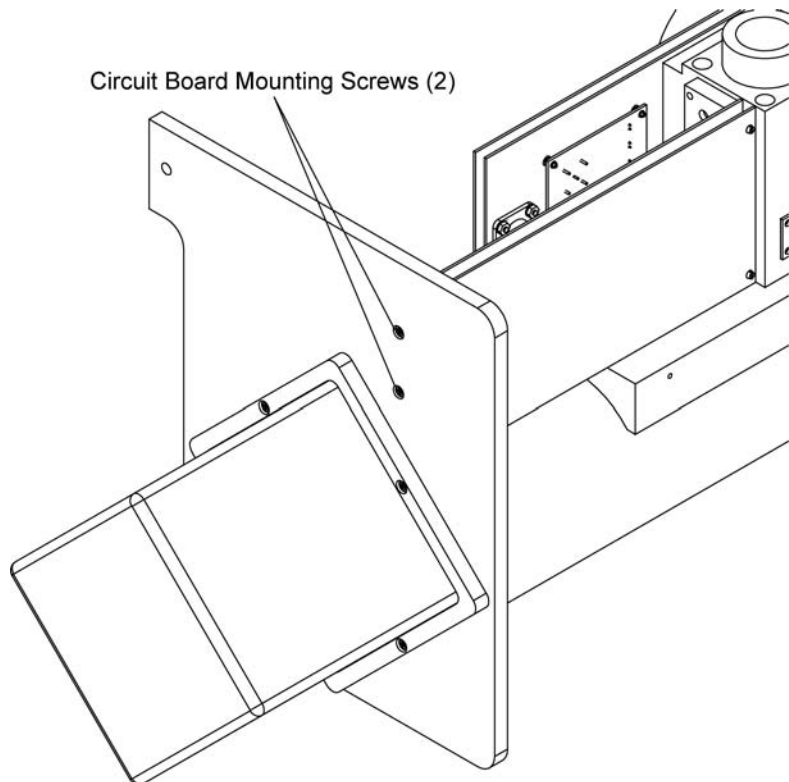

Figure 8-17
- 5. Loosen the two screws attached to the analog and digital circuit boards (Figure 8-17).
20. Reattach the analog and digital circuit boards to the end plate using the two screws (Figure 8-17).